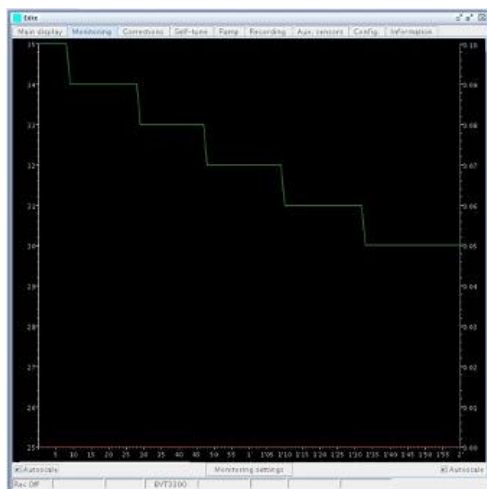

Figure 7. Monitoring cool down to room temperature.
11. The final step is to cool the probe back to room temperature. First, reset the heat power to 5% and reduce the gas flow back to 270 l/h. Reduce the temperature by 10° C and monitor the temperature in the monitoring window (Fig. 7). Note that you don't need to let it fully equilibrate at each step. Give it ~1 minute before lowering the temperature another 10° C. Then final step (from 35° to 25° C) will take >5 minutes. Once the temperature reaches 30° C you can turn the probe heater off by clicking the button to the left of the heater percentage in the main tab.